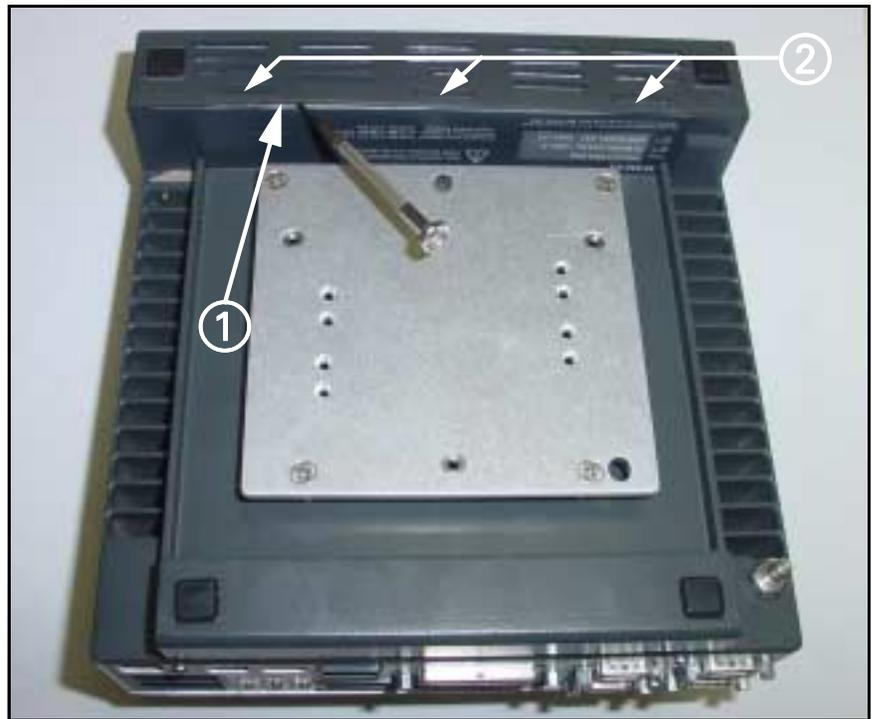
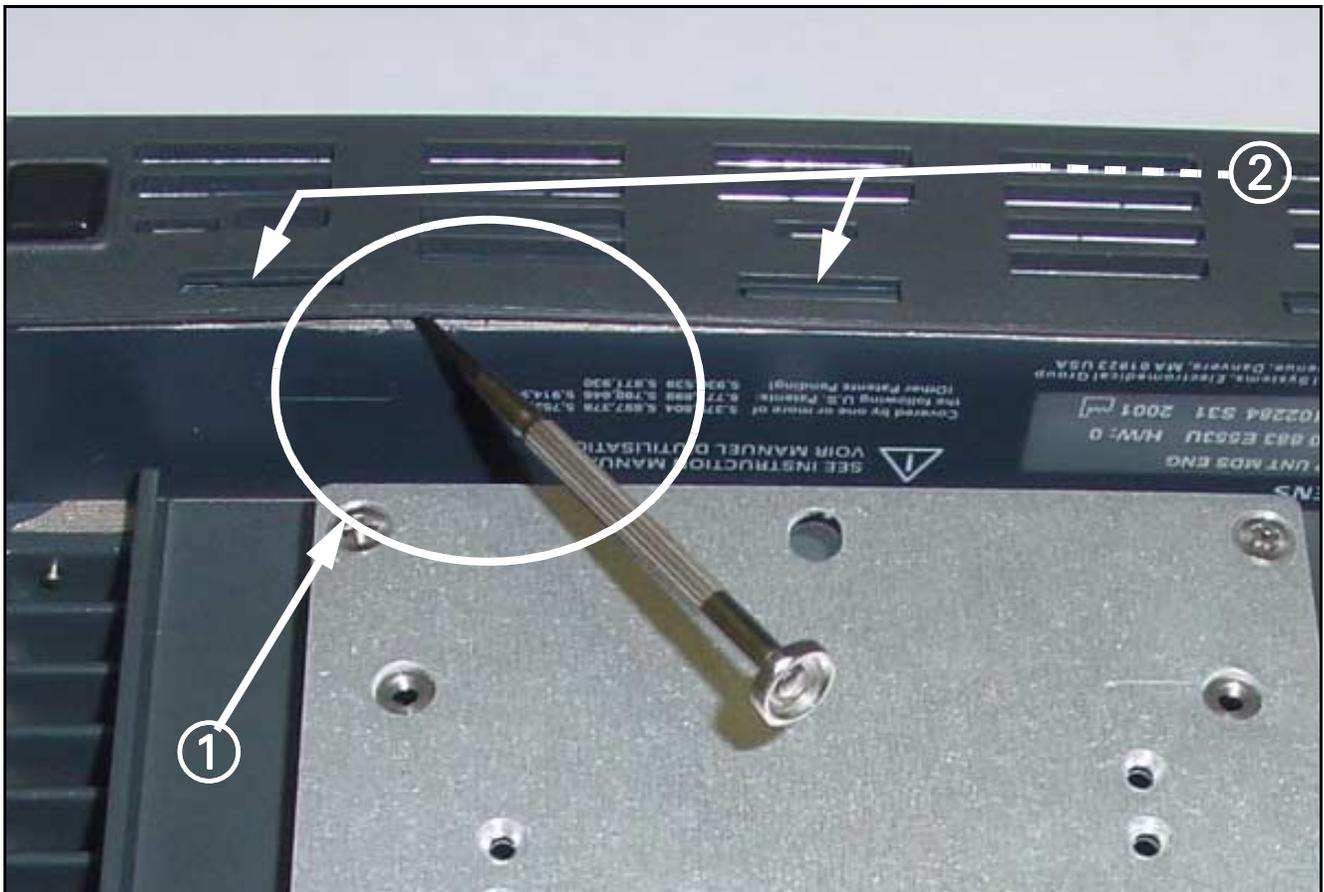

Figure 5-2 MDS (bottom view)
Figure 5-3 MDS exploded bottom view front panel
6. Insert small blade screwdriver between front panel and chassis of MDS (as shown at ① in Figure 5-2 and in Figure 5-3 "exploded view"), close to each of three panel locking tabs indicated by ② in Figure 5-2, and carefully lift up on screwdriver to release front panel from each locking tab (② in Figure 5-2 and in Figure 5-3 "exploded view"), and then pull front panel out so that tabs cannot reset.